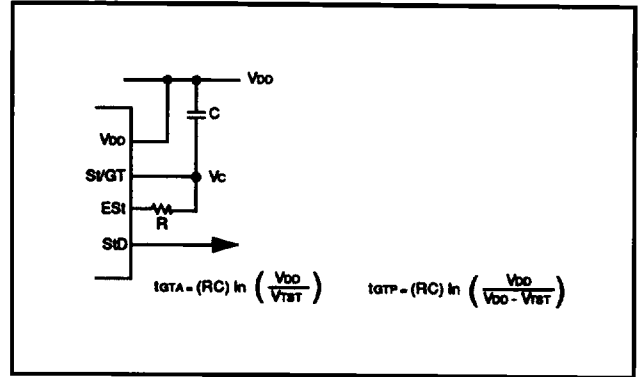

Figure 3 Basic Steering Circuit
Before a decoded tone pair is registered, the receiver checks for a valid signal duration (referred to as “character-recognition-condition”). This check is performed by an external RC time constant driven by ESt. A logic high on ESt causes V_C (see Figure 3) to rise as the capacitor discharges. Provided that signal condition is maintained (ESt remains high) for the validation period (t_{GTF}), V_C reaches the threshold (V_{TSt}) of the steering logic to register the tone pair, thus latching its corresponding 4-bit code (see Table 5) into the output latch. At this point, the GT output is activated and drives V_C to V_{DD} . GT continues to drive high as long as ESt remains high. Finally, after a short delay to allow the output latch to settle, the “delayed steering” output flag (StD) goes high, signaling that a received tone pair has been registered. The contents of the output latch are made available on the 4-bit output bus by raising the three-state control input (OE) to a logic high. The steering circuit works in reverse to validate the interdigit pause between signals. Thus, as well as rejecting signals too short to be considered valid, the receiver will tolerate signal interruptions (dropouts) too short to be considered a valid
Where independent selection of receive and pause are not required, the simple steering circuit of Figure 3 is applicable. Component values are chosen according to the formula: